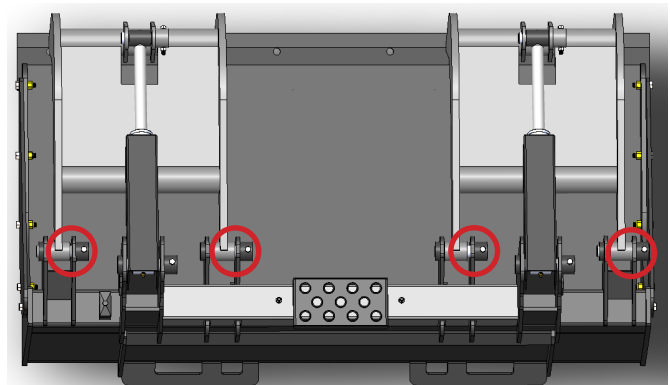

Figure 2
Grease all pivot points every eight (8) hours of use to prevent excess wear on the clamp pins. The Light Duty, Heavy Duty, Heavy Duty Series 2, and HDX Grapple Buckets have four (4) grease points. These points are circled in Figure 2.